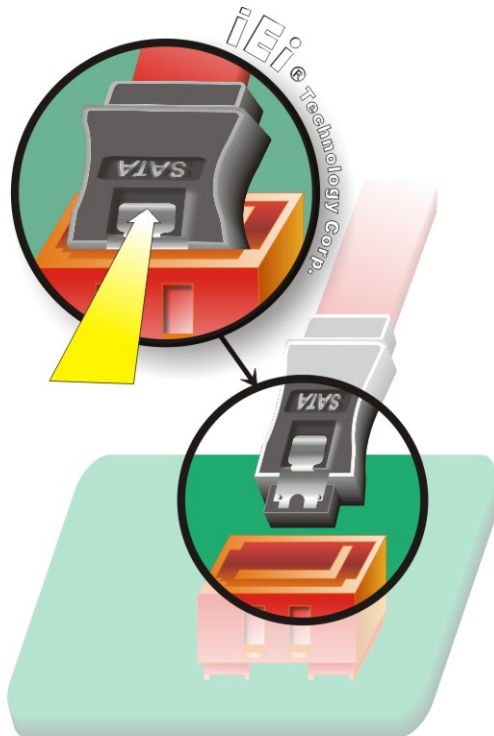

Figure 5-10: SATA Drive Cable Connection
Step 2: Insert the cable connector. Press the clip on the connector at the end of the SATA cable and insert the cable connector into the onboard SATA drive connector. See Figure 5-10.